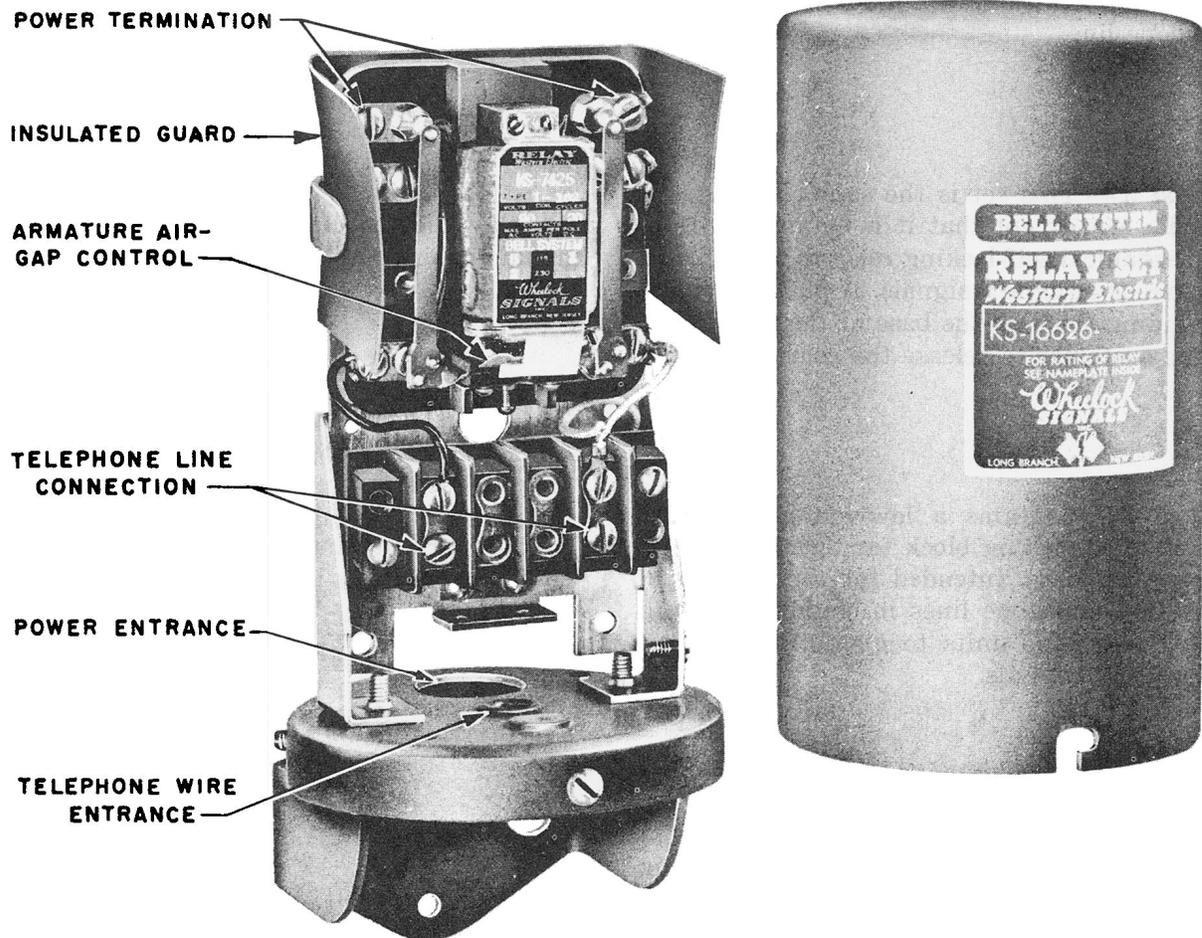

Fig. 1 - KS-16626, List 1 Relay Set, Cover Removed
2.01 The KS-16626 relay set shown in Fig. 1 is for indoor and outdoor use and consists of a relay and associated apparatus assembled in a beige-gray cylindrical aluminum housing.